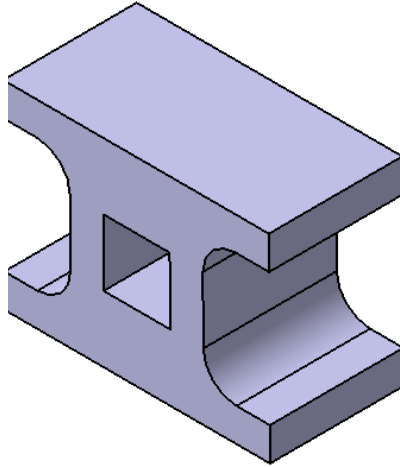

Figure 2-80 The final model for Tutorial 3
4. Orient the view of the model to the isometric view using the **Isometric View** tool from the **View** toolbar. The model after creating the extruded feature is shown in Figure 2-80.